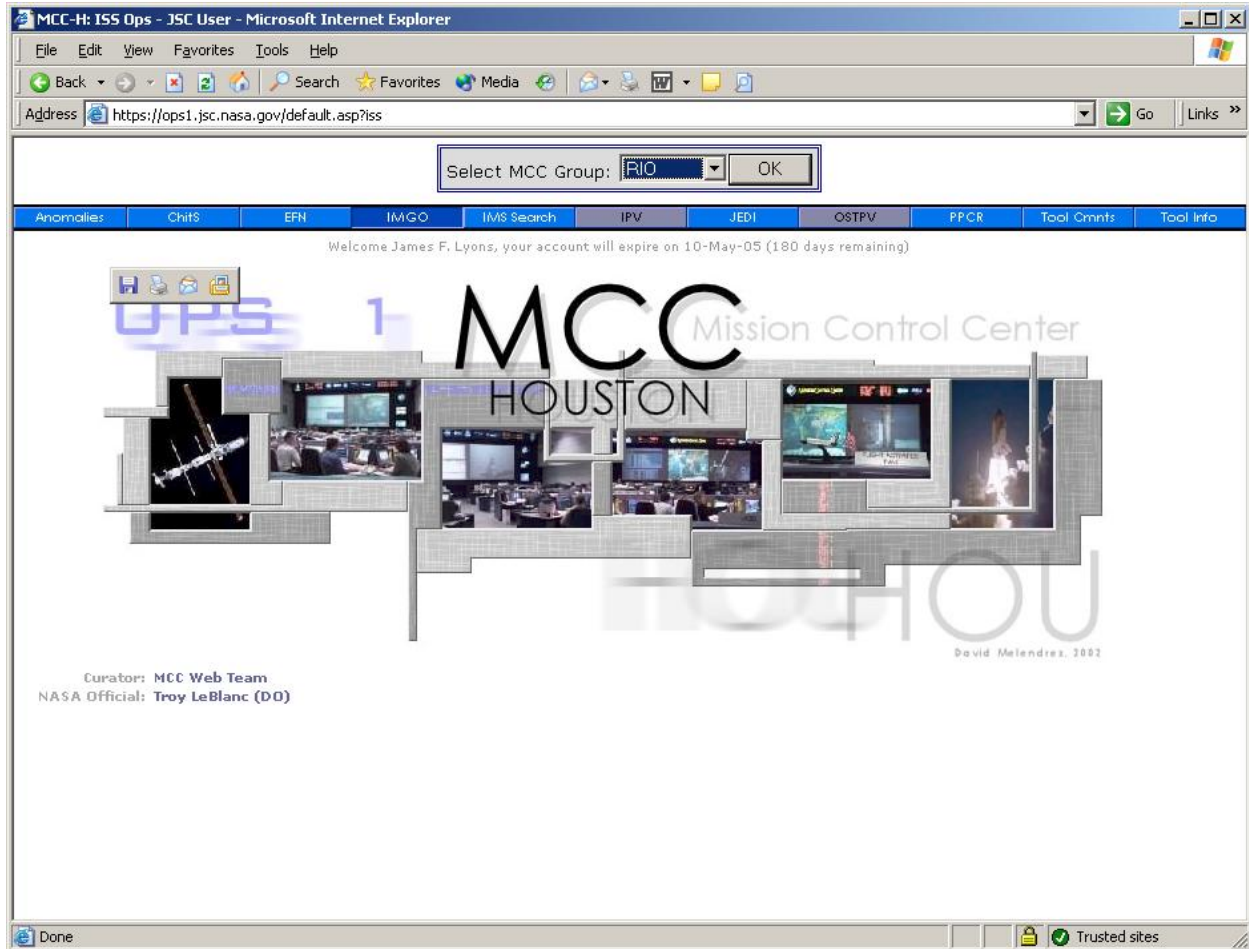

Figure 4-69. Starting IMGO
- Bring up the application by clicking on the **IMGO** button on the blue toolbar, as shown in Figure 4-69.
2. This brings up the **Select MCC** window (also shown in Figure 4-69). Click on the down arrow to choose which flight control position from which you want to issue IMGO color indications.